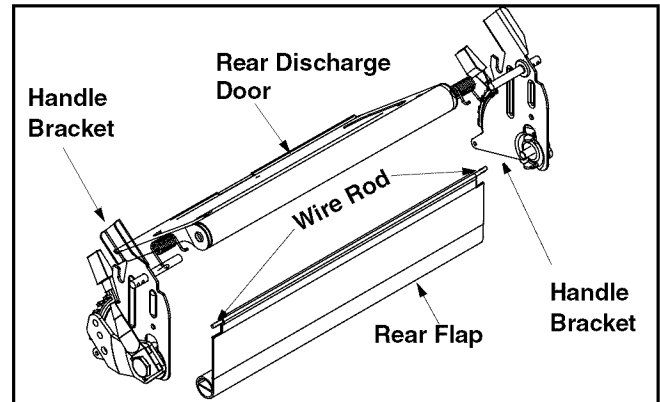

Figure 14
- To remove rear flap, cut off the flat end of the wire rod which secures it to the deck. See Figure 14 .